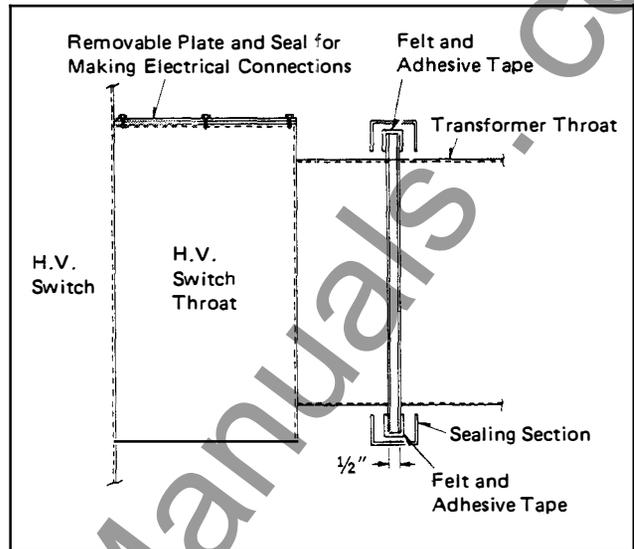

Fig. 5 Transformer Connection to WLI Switch
3.2.1.2 Outdoor Throat Connection (See Fig. 5)